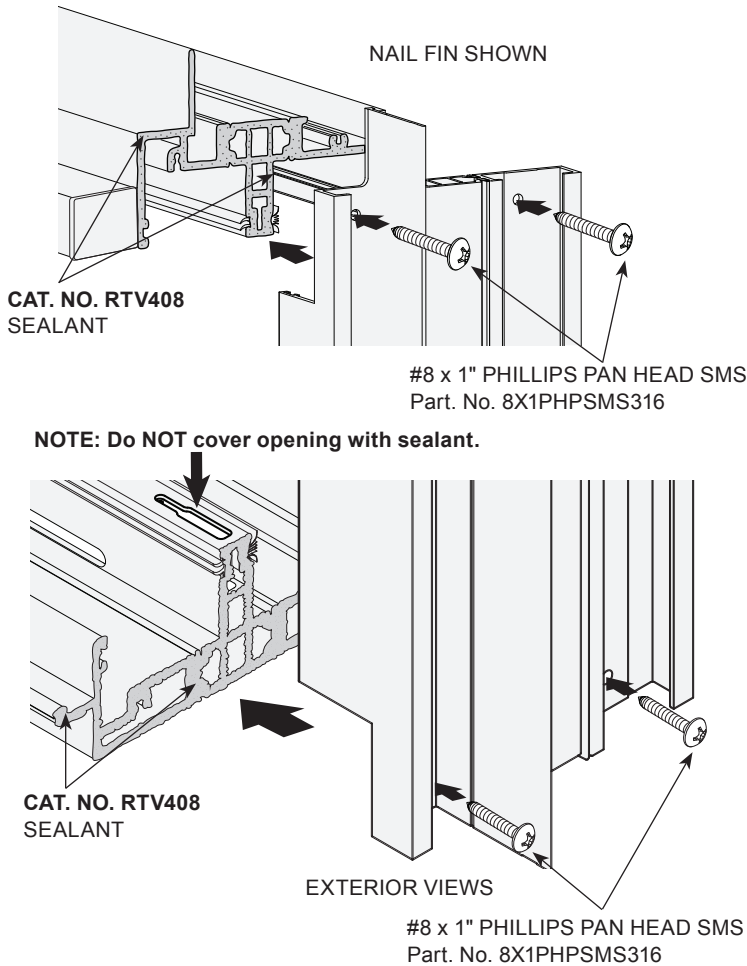

FIG. 1
2. Apply **Cat. No. RTV408** sealant to ends of head, sill, and all fin joints before assembly. (FIG. 1)
3. Assemble the frame using Part. No. 8X1PHPSMS316 #8 x 1" Phillips Pan Head SMS screws. (FIG. 1)